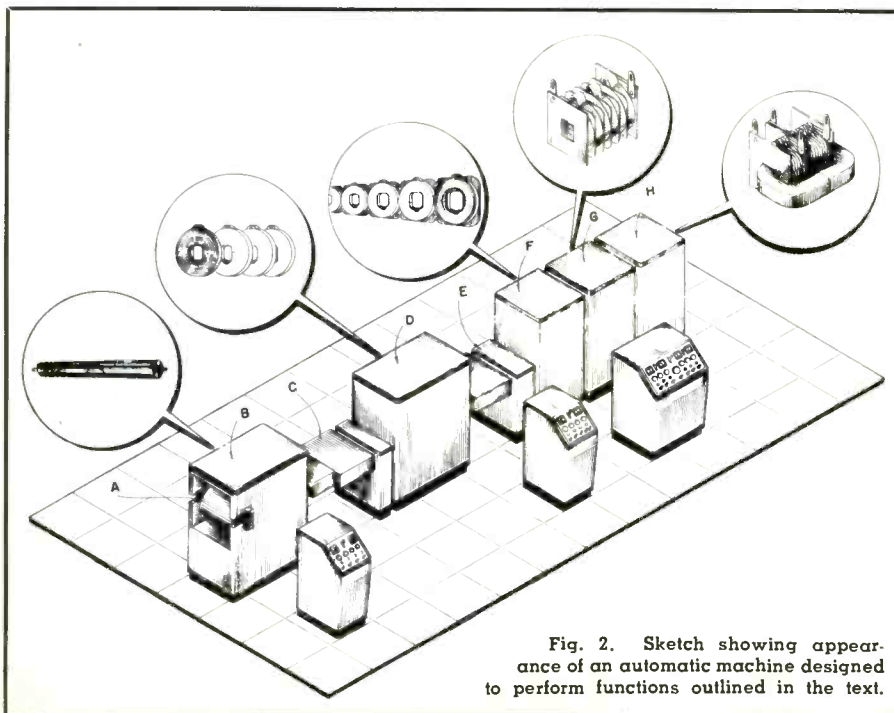

Fig. 2. Sketch showing appearance of an automatic machine designed to perform functions outlined in the text.
Adequate experience has been gained in the building of various samples to be able to determine all the steps needed for automatic assembly of the wafers. These steps can be identified as follows: (1) winding of laminated foil or rolled sheet stock, (2) cutting or slicing of wound laminated rolls, (3) assembly of wafers to tape, (4) assembly of wafers into coils, and (5) assembly of core and coil. To give a perspective of such an automatic setup, the essentials were combined and a sketch made (Fig. 2) to illustrate the whole process.